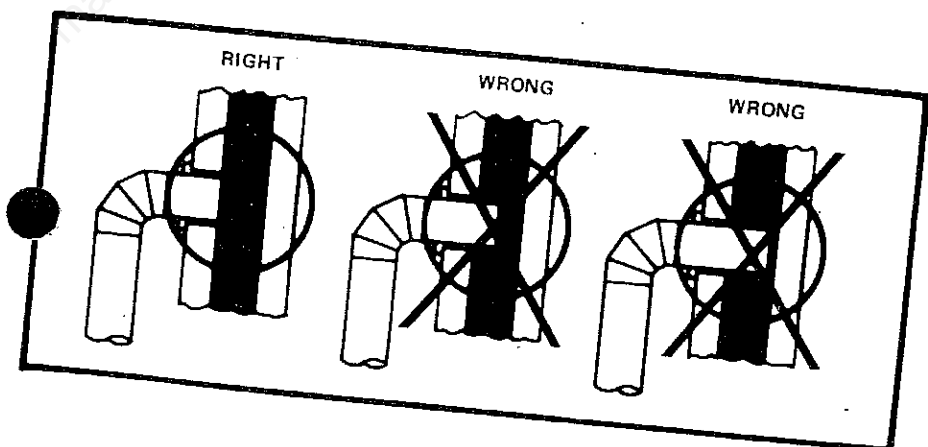

FIG. 9
4. The pipe cannot extend into the chimney flue (Fig. 9).